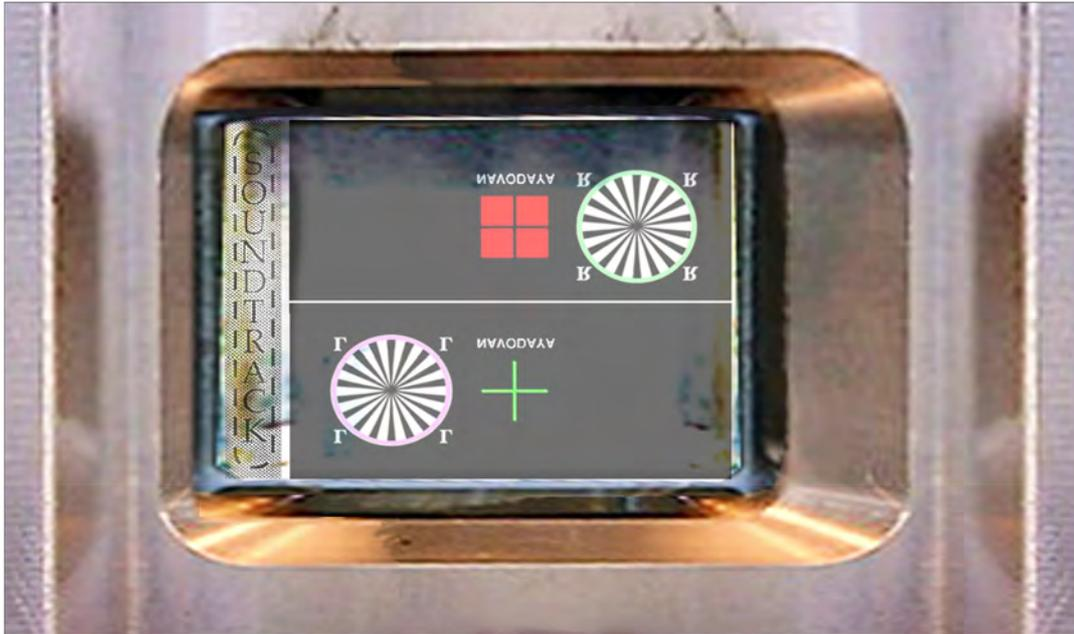

Fig. 4 : 3D Film in the projector film gate *seen from the lens side*
- Thread the alignment film loop into the projector's film guide taking care of the correct position of the sound track. The thicker separation line between the two partial images must be centered in the film gate (the thinner lines are frame lines) (fig. 4)